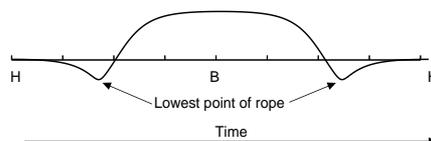
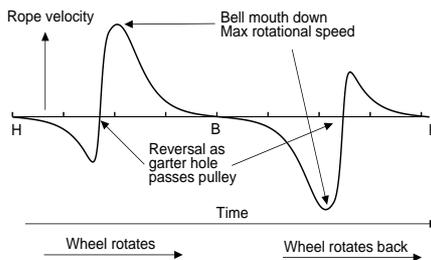
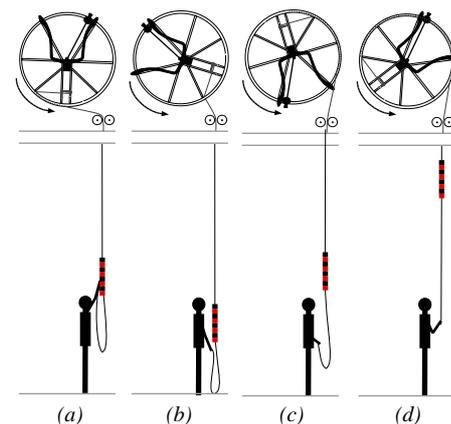

Figure 1: Position of the rope
Figure 2: Varying speed of the rope
Figure 3: Rope and wheel movement
To illustrate the point, *Tail End* drew a sketch to show how the rope speed varies. Subsequent calculation produced an even 'sharper' picture, with more rapid speed changes, but before looking at speed, let's get our bearings by looking at rope position. Figure 1 shows how the rope position varies as the wheel rotates from handstroke (H) to backstroke (B) and back to handstroke (H). The axis represents the height of the rope when the bell is on the balance at handstroke.
Following the curve from the left, we see the rope coming down from the handstroke, then rising well past its initial position to the backstroke. It then returns to the handstroke, with its movement mirroring what it has just done. A whole pull takes about 4 seconds for a typical bell, so the intervals on the axis of Figures 1 and 2 are roughly half seconds.
That means most of the movement takes place during only about half of the total time. Now let's look in detail at Figure 2, which shows the rope speed. Where the curve is above the axis, the rope is moving upwards, and where it is below, the rope is moving downwards. The rope is moving slowly where the curve is close to the axis, and more rapidly when it is further from the axis.
Starting again from the left, as the rope descends from handstroke, the downward speed increases. This increase is brought to a rapid halt when the garter hole passes the pulley (see Figure 3(b)). The rope can't go lower, and begins to rise as it starts to wind the other way round the wheel.
So far, so good, but look again at Figure 3(b) and you see the bell still has a long way to swing down from this point, so it is still accelerating – the rope changes direction, while the wheel is still increasing speed, which makes the transition vary rapid. In Figure 2, you can see that within about a quarter of a second of its fastest downward movement, the rope is moving twice as fast upwards. That is why, if you are unwise enough to hang on too long after the handstroke, the rope will give you a nasty jolt.
In the right hand half of Figure 2, as the rope returns from backstroke to handstroke, with the speed reversed. The rope accelerates down from the backstroke, before doing another sudden reversal and rising to the handstroke.
Figures 1 and 2 are shown above each other so you can correlate them. Notice that the two curves don't cross the axis at the same time. Figure 2 (speed) crosses the axis at the lowest and highest points of the curve in Figure 1. The rope speed is zero at the top and bottom of its travel, not where it passes its initial height.
Sensing the natural speed changes in the rope movement is not only important for good rope control, but essential if you are to feel through the rope, to what the bell is doing. A common problem is failing to let the bell rise fully at the top of the stroke. As you can see from Figure 1, the last little bit of the rise towards the balance is slow and protracted. Near the top, the bell feels light, and you need a delicate touch to detect when it actually gets to the top. If you are heavy handed, the force you put on the rope will stop the bell prematurely and make it drop.